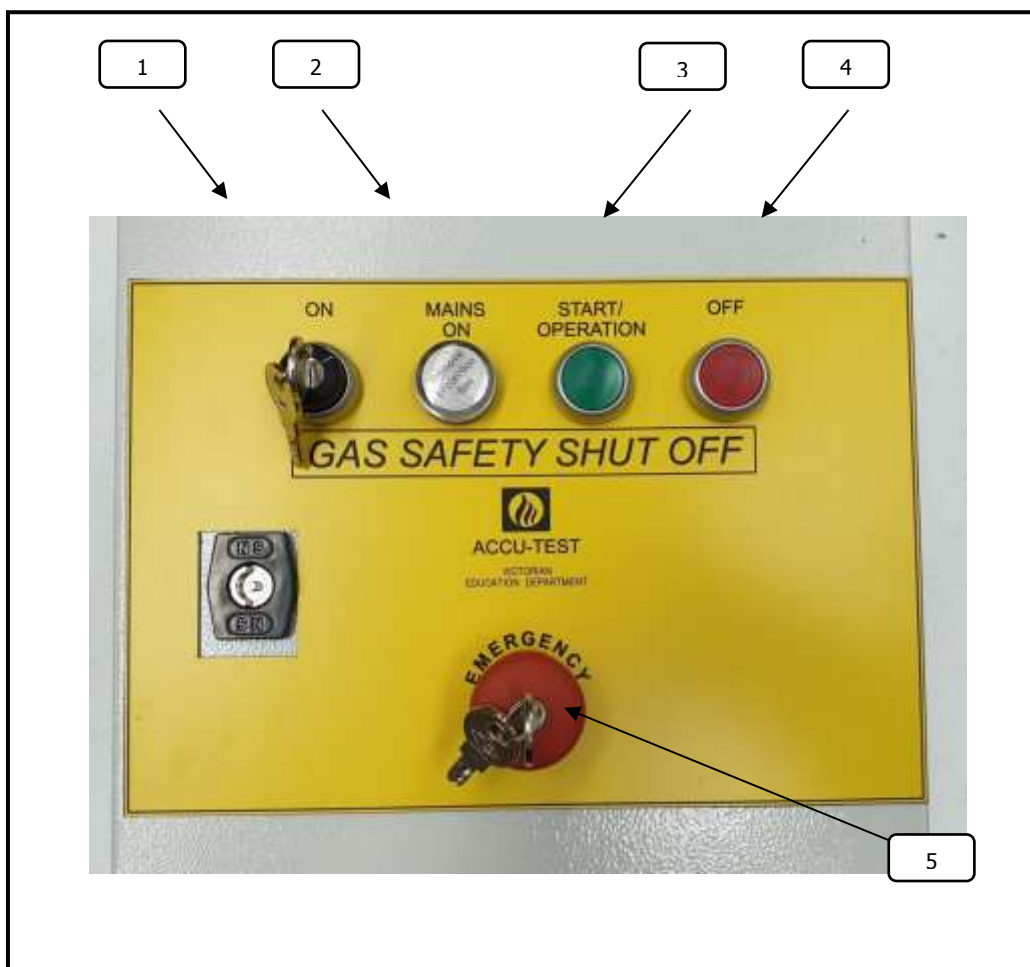

Figure 2 – Control Panel Front Description
13. Turn keyed power *ON Switch* (refer Fig. 2 position 1) to turn on power (switch will spring return when released).
14. The *Mains On* (refer Fig. 2 position 2) indicator should now be illuminated. The *Start/Operation* (refer Fig. 2 position 3) indicator should not be illuminated.
18. Push and hold the *Start/Operation Pushbutton* (refer Fig. 2 position 3) and SLOWLY open the LOV (refer Fig. 1 position 4) to the minimum flow setting. This minimum flow setting MUST BE LESS than the smallest appliance flow connected. This is necessary to ensure the system
20. Press and hold the *Start/Operation Pushbutton* (refer Fig. 2 position 3) until it is illuminated - this signals that the piping is gas tight. The Main Solenoid Valve (refer Fig. 1 position 1) will be energized.
22. Release the *Start/Operation Pushbutton* (refer Fig. 2 position 3).
2. When each interlock is tripped the Main Solenoid Valve (refer Fig. 1 position 1) should shut off and the ACCU-TEST *Mains On* (refer Fig. 2 position 2) and *Start/Operation* (refer Fig. 2 position 3) indicators should both be off.
1. Shutdown the ACCU-TEST system by pressing the *OFF Pushbutton* (refer Fig. 2 position 4).
5. Turn on the keyed power *ON Switch* (refer Fig. 2 position 1) and attempt to charge the downstream gas piping by pressing the *Start/Operation Pushbutton* (refer Fig. 2 position 3).
13. If the gas pressure does not increase past the switch setpoint, the main gas valve will remain closed. Shut the system down by pressing the *OFF Pushbutton* (refer Fig. 2 position 4).
16. Reset the system by turning the keyed power *ON Switch* (refer Fig. 2 position 1) then pushing and holding the *Start/Operation Pushbutton* (refer Fig. 2 position 3) until it illuminates.
2. Turn off the ACCU-TEST by pressing the *Emergency Stop Pushbutton* (refer Fig. 2 position 5).